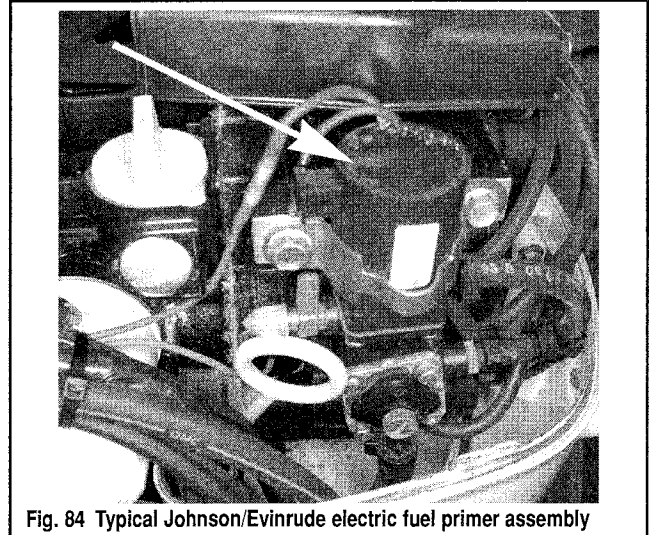

Fig. 84 Typical Johnson/Evinrude electric fuel primer assembly
◆ See Figure 84
◆ See Figures 84 and 85
- ◆ See Figures 84, 86 and 87
- ◆ See Figures 84, 88 and 89